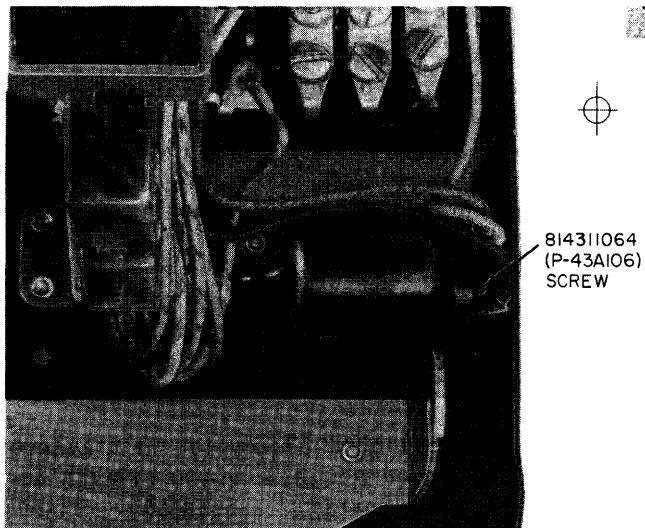

Fig. 11—501-Type Telephone Set, Tube Assembly
- (2) Tube assembly is held to base of set with single screw (Fig. 11).